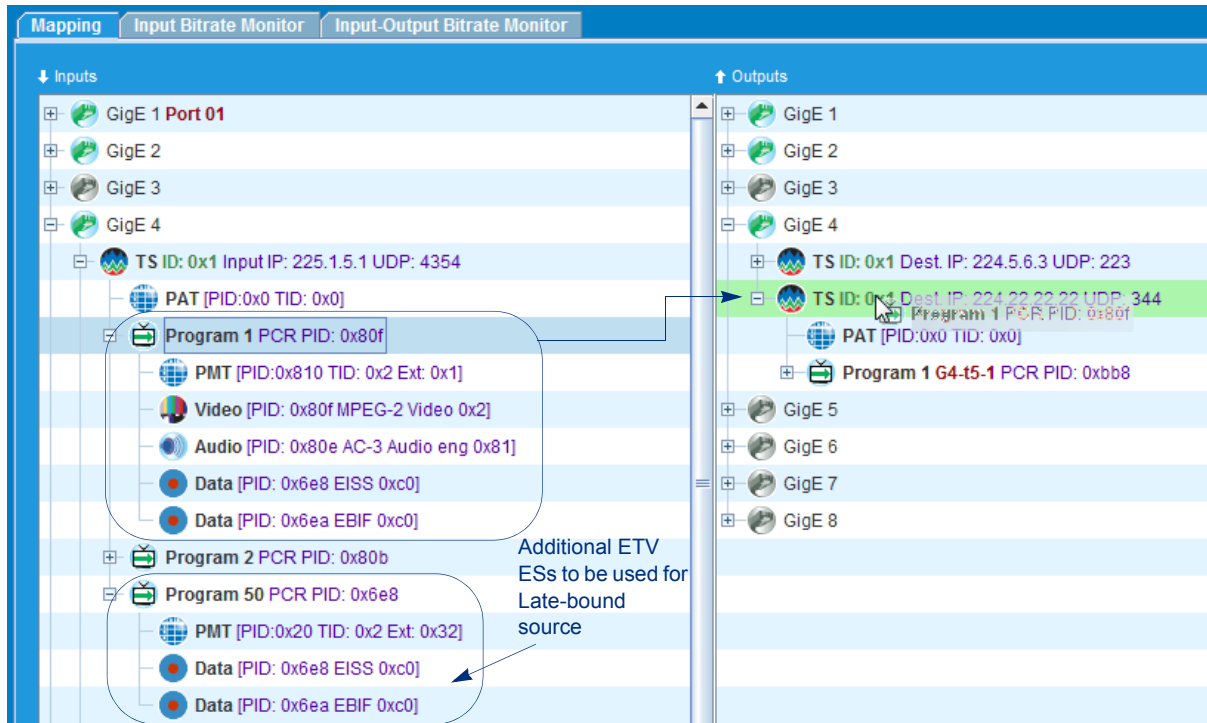

Figure 218. Input program (with ETV data) groomed to oTS; Late-bound
3. Use the **Drag and Drop Grooming** feature to groom a desired input program to the desired output transport stream (oTS), as seen in Figure 218, for example.